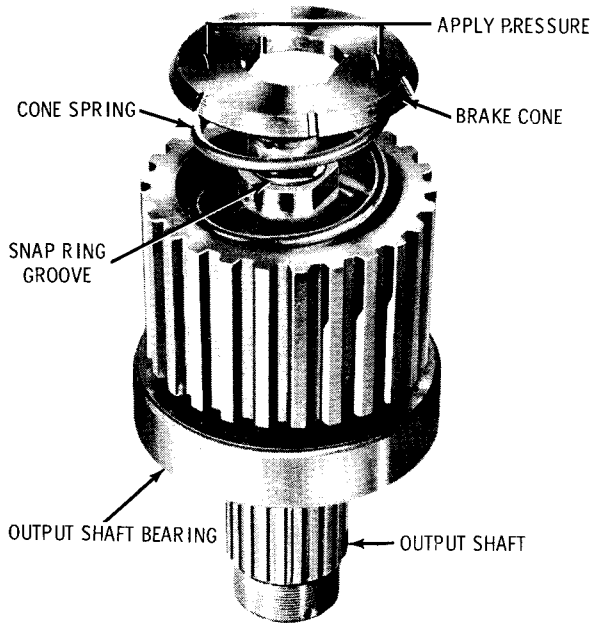

Fig. 7-6. Assembling output shaft
(1) Position output shaft 28 (A, foldout 11) on a press, with threaded end of shaft up. Position output shaft front bearing assembly 26 on the shaft, with shielded side of the bearing downward. Press the bearing onto the shaft.
(2) Invert the output shaft in a press and position the brake cone spring (fig. 7-6) and brake cone, beveled side upward, on the shaft. Aline flats on the cone and shaft and apply sufficient pressure to the brake cone to permit installation of snapping 31 (A, foldout 11).
(3) Press bearing 32 (A, foldout 11) onto the output shaft until solidly seated against the snapping.
(4) Position output intermediate gear 19 (B, foldout 11) in a press, with the hub upward. Press bearing 20 onto the gear hub until solidly seated.
(5) Install output intermediate gear and bearing into the center bearing retainer in the main housing. With a brass drift and hammer, drive the gear and bearing in until the bearing seats firmly in the retainer.